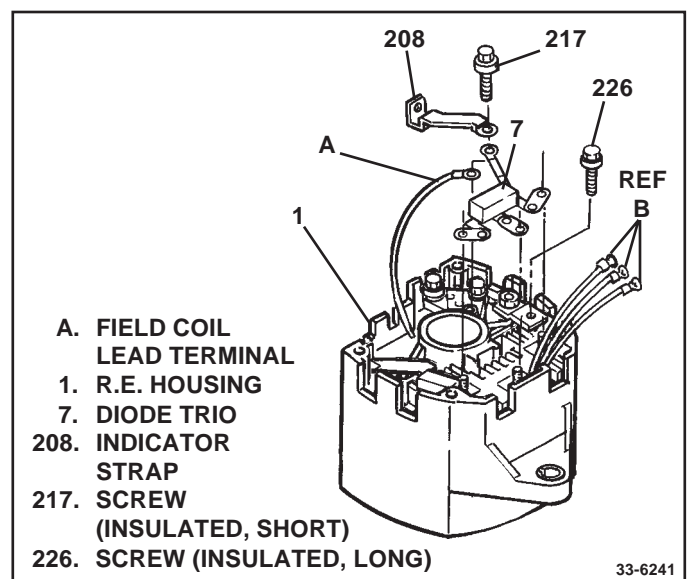

Figure 34. Installing Diode Trio and Sense Connector
17. Bridge to regulator stud connector (219) over threaded stud of regulator (6) with nut (218). Finger tighten.
18. Diode trio (7) on to 3 threaded studs on rectifier bridge (8).
19. Insulated screw (217) through indicator strap (208) hole, long leg of diode trio (7) and other field coil lead terminal (A) into regulator (6) unused hole and into R.E. housing. (See Fig. 34) Finger tighten.